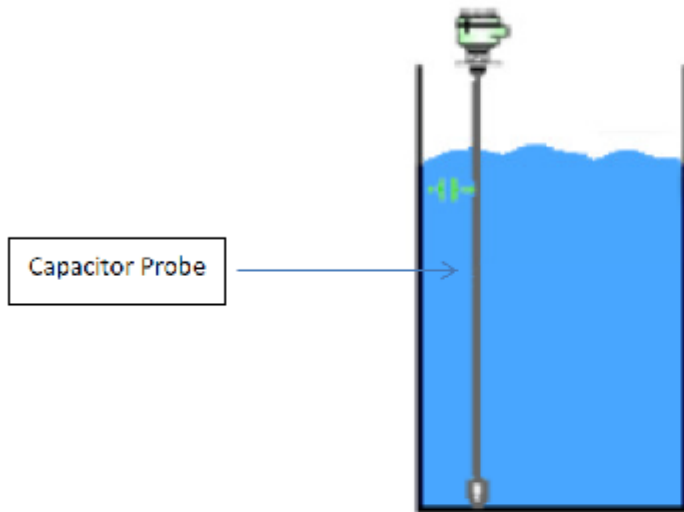
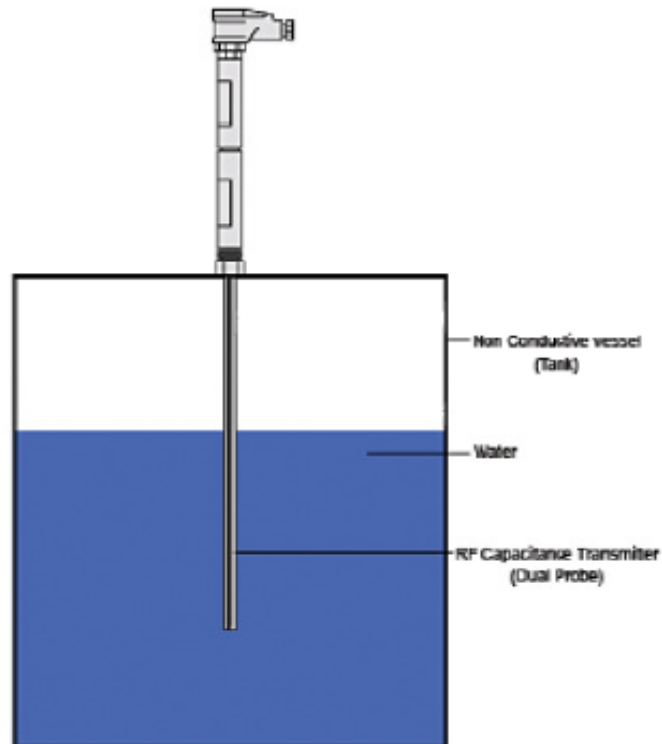

Figure 1: Capacitor Probe in a conducting Tank
Figure 2: Dual Capacitor Probe in a non-conducting Tank
1. Open the "MT001-003 Level Measurement" window as shown in figure 1.
ϵ_0 is the dielectric constant of air and ϵ_r is the relative dielectric constant of the medium. A is the area of the plates of a capacitor and d is the distance between the two plates of a capacitor. In order to understand the working principle of a capacitance probe level sensor, consider figure 1, which shows a capacitance probe level sensor inserted into a tank with conduction walls. As indicated, the wall of the tank and the probe constitute two plates of a capacitor. Any change of liquid level in the tank causes the change of dielectric medium between the two plates and thus changes the capacitance, giving a measure of the liquid level.
should be noted that since the tanks in MT003-001 are made of Plexiglas which is a non-conducting material, therefore the scheme of figure 1 cannot be used. Instead as seen in figure 2, a dual capacitor probe consisting of two concentric cylinders is used. The two concentric cylinders constitute the two plates of a capacitor and a change of liquid level between the two plates causes an ultimate change in the capacitance